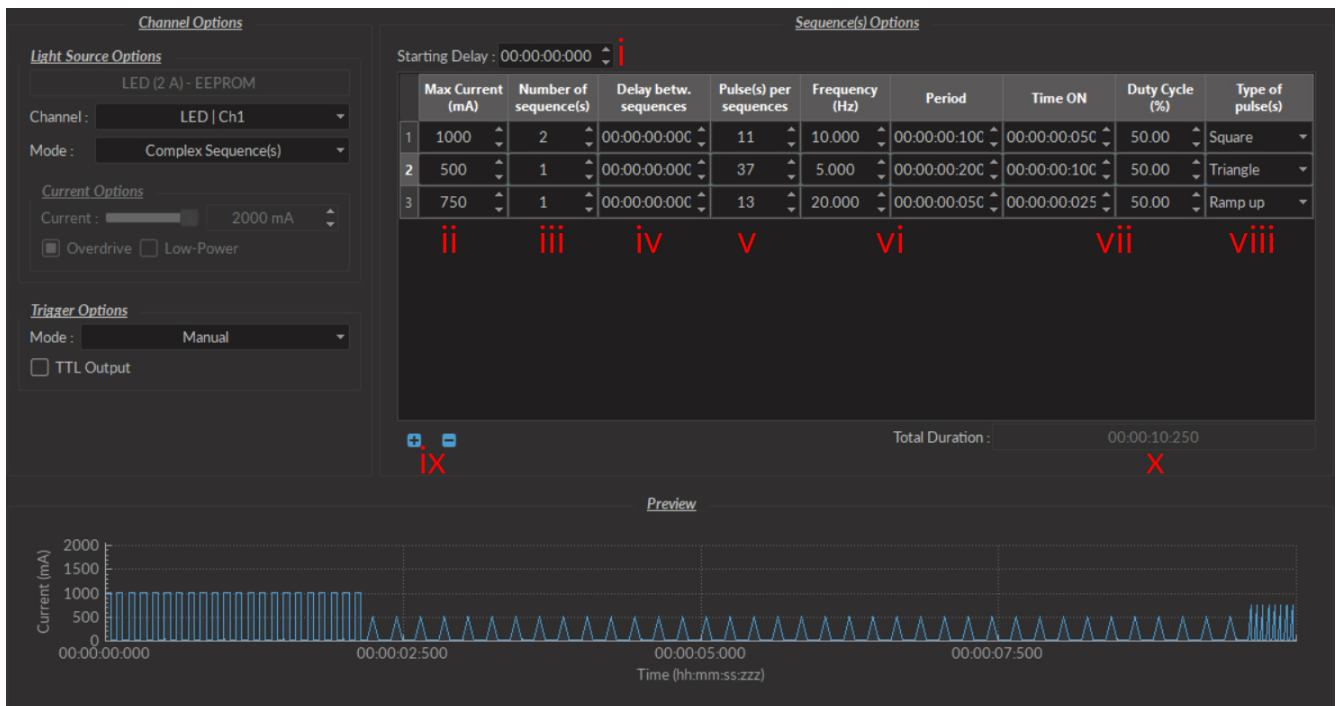
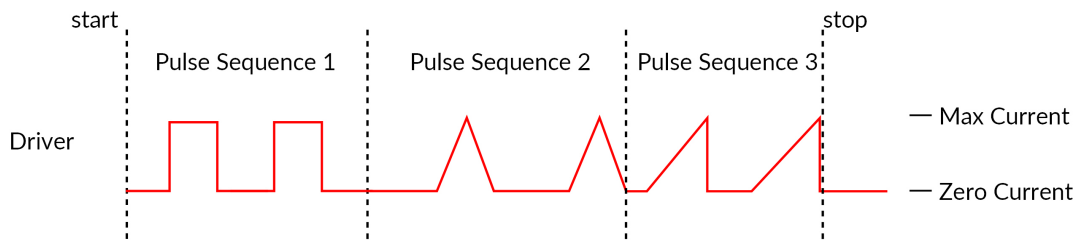

Figure 3.8: Complex Sequences Window
Figure 3.9: Internal Complex Mode Pulse Sequences
- The **Starting Delay** (Fig. 3.8) sets the delay (in hh:mm:ss:zzz format) before the first pulse sequence.
- The **Max Current** (Fig. 3.8) sets the maximum current (in mA) for the given sequence.
- The **Number of sequences** (Fig. 3.8) sets the number of times that the sequence will be repeated, with a minimum of 1.
- The **Pulses per sequence** (Fig. 3.8) sets the number of pulses per sequence, with a minimum of 1.
- The **Delay between sequences** (Fig. 3.8) sets the delay (in hh:mm:ss:zzz format) between each sequence if the **Number of Sequences** is greater than 1.
- The **Frequency/Period** (Fig. 3.8) sets the frequency (in Hz) or period (in ms) for the pulse sequence. These two values are linked, and when one is changed the other will adjust automatically. For example, a signal at 10 Hz (frequency) will output one pulse every 100 ms (period), whereas a pulse sequence at 0.5 Hz (frequency) will output one pulse every 2000 ms (period).
- The **Time ON/Duty Cycle** (Fig. 3.8) sets the time (in ms) or the duty cycle (in %) for each pulse. These two values are linked, and when one is changed the other will adjust automatically. The **Time ON** must be lower than $(1/\text{frequency}) + 0.005$ ms, while the **Duty cycle** must be below 100 %.
- The **Types of pulses** (Fig. 3.8) sets the pulse type. Pulses can be **Square**, triangular (**Triangle**), **Ramp up** **Ramp down** or **Delay** (Fig. 3.9). The **Delay** pulse type is used to create a delay between different sequence
- The **Sequence controls** (Fig. 3.8) allow the addition (+) or removal (-) of sequences to the spreadsheet.
- The **Total Duration** (Fig. 3.8) displays the total time of the experiment. The different values can be *Inf* for infinite, a valid time value or *Err* if the **Time ON** value is greater than $1/\text{frequency}$.